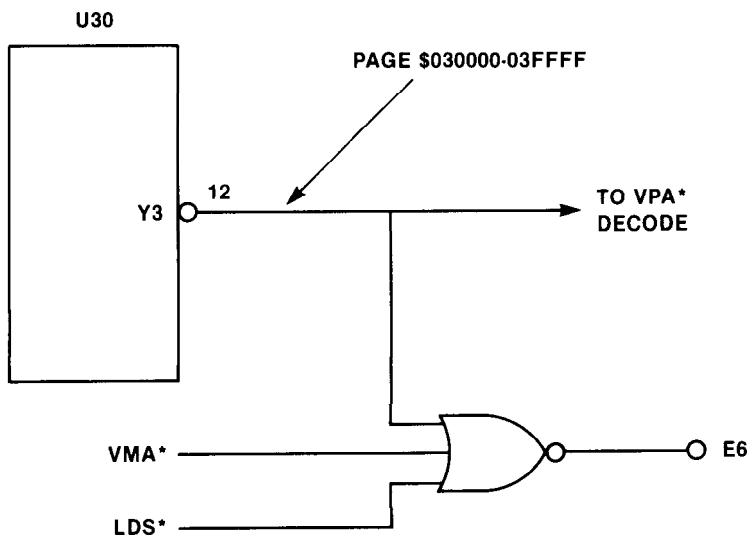

FIGURE 7-7. M6800 Page Address Signal Generation
7.3.6.1 M6800 Page Address Decode. A 64K-byte segment of the system memory map is reserved for an M6800 type interface. Connection point E6 is enabled high whenever this page (\$030000-\$03FFFF) is selected. Connection point E6 can be located on Figure 7-2, and Figure 7-7 shows the logic generating signal E6.